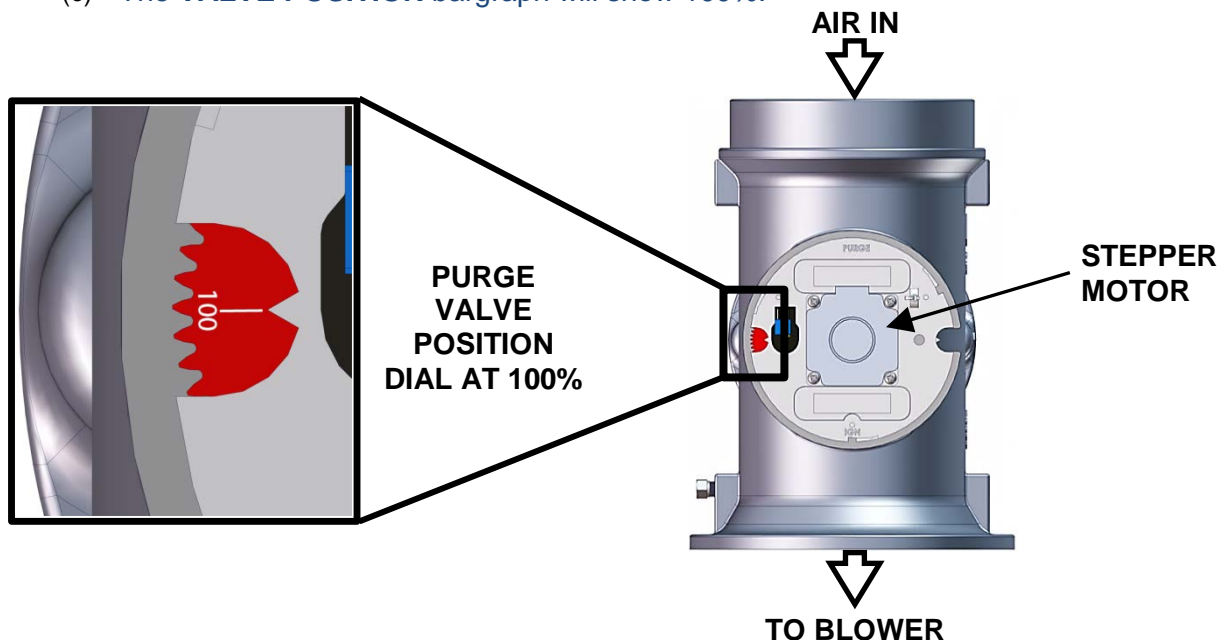

Figure 3-4. Air/Fuel Valve in Purge Position
- (b) The Air/Fuel Valve rotates to the full-open purge position and closes purge position switch. The dial on the Air/Fuel Valve (Figure 3-4) will read **100** to indicate that it is full-open (100%).